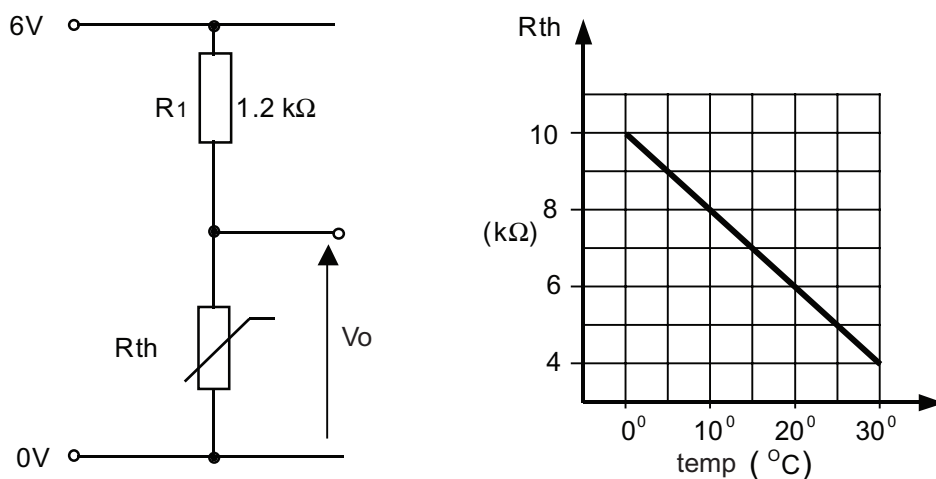

Fig. 2(a)
- 2 The voltage divider circuit shown in **Fig. 2(a)** is to be used as part of a circuit for measuring the temperature of water in a storage tank. The resistance/temperature characteristic for the thermistor R_{th} is also shown.
- (ii) State the purpose of the voltage divider arrangement shown in **Fig. 2(a)**. [1]